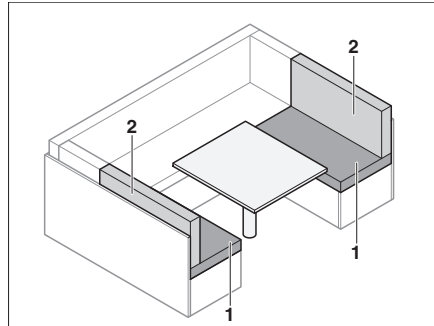

Fig. 75 Prior to conversion
- Remove the back cushions (Bild 75,2).